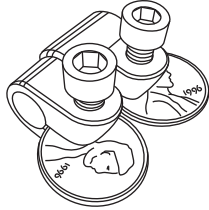

Figure 3
- If you have difficulty installing the clamps, use the “penny trick”: (a) thread any of the M5 bolts into the threaded holes of the clamp (b) insert thin coins partially into the clamp slot (c) use 4mm hex key to slowly tighten the bolts against the coins until the clamp spreads enough to allow its installation. (Figure 3)